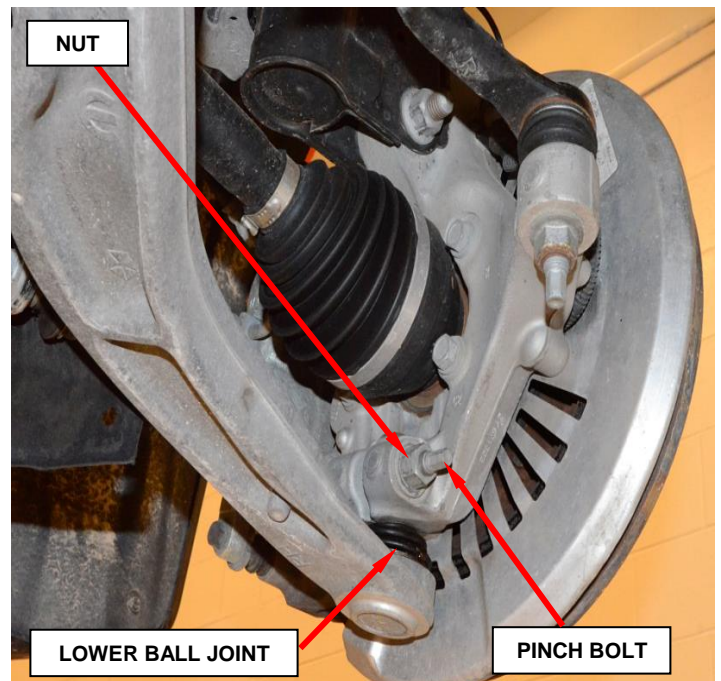

Figure 4 – Lower Ball Joint Pinch Bolt
6. Remove and **DISCARD** the lower ball joint pinch bolt and nut (Figure 4).
7. Pry down on the control arm until the ball joint stud is clear of the knuckle. Position the knuckle assembly to the side until it is clear of the ball joint stud. Slowly release the control arm (Figure 4).
8. Swing the steering knuckle outward and off the halfshaft end (Figure 4).